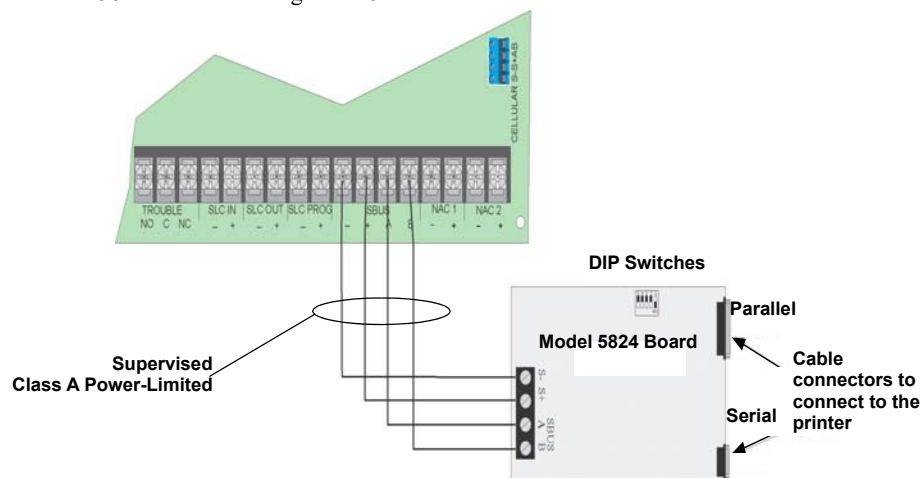

Figure 4.15 5824 Module Connection to the Panel
2. Connect the 5824 module to the panel as shown in Figure 4.15.
5. Connect a printer to the 5824 as shown in Figure 4.15.